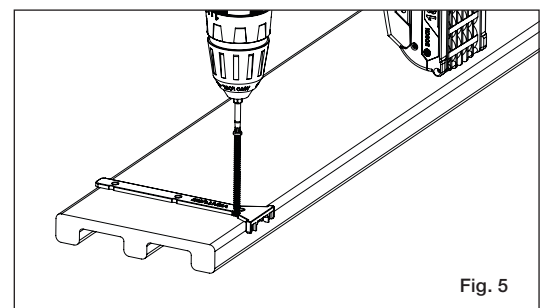

Fig. 5
A) For all deck board fastening, it is recommended that you use the locator tool to ensure accurate screw placements into the thickest lobed areas (fig. 5). You can either mark the location using the locator tool for predrilling or use the notches in the side of the tool to predrill the holes for the screws. For more information and instructions on how to use the locator tool please visit www.Deckorators.com/locatortool.com.